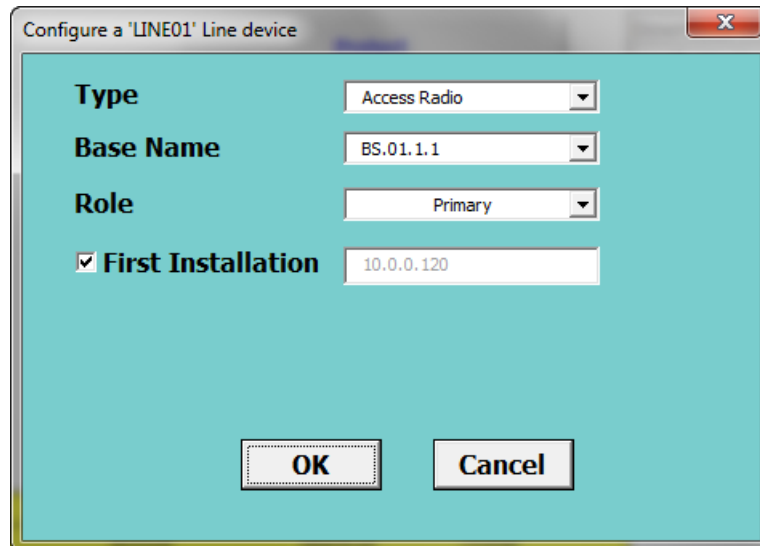

Figure 4-15: TBS - First time Installation
6. **Type:** Select the radio type - Access Radio, as shown in Figure 4-15.